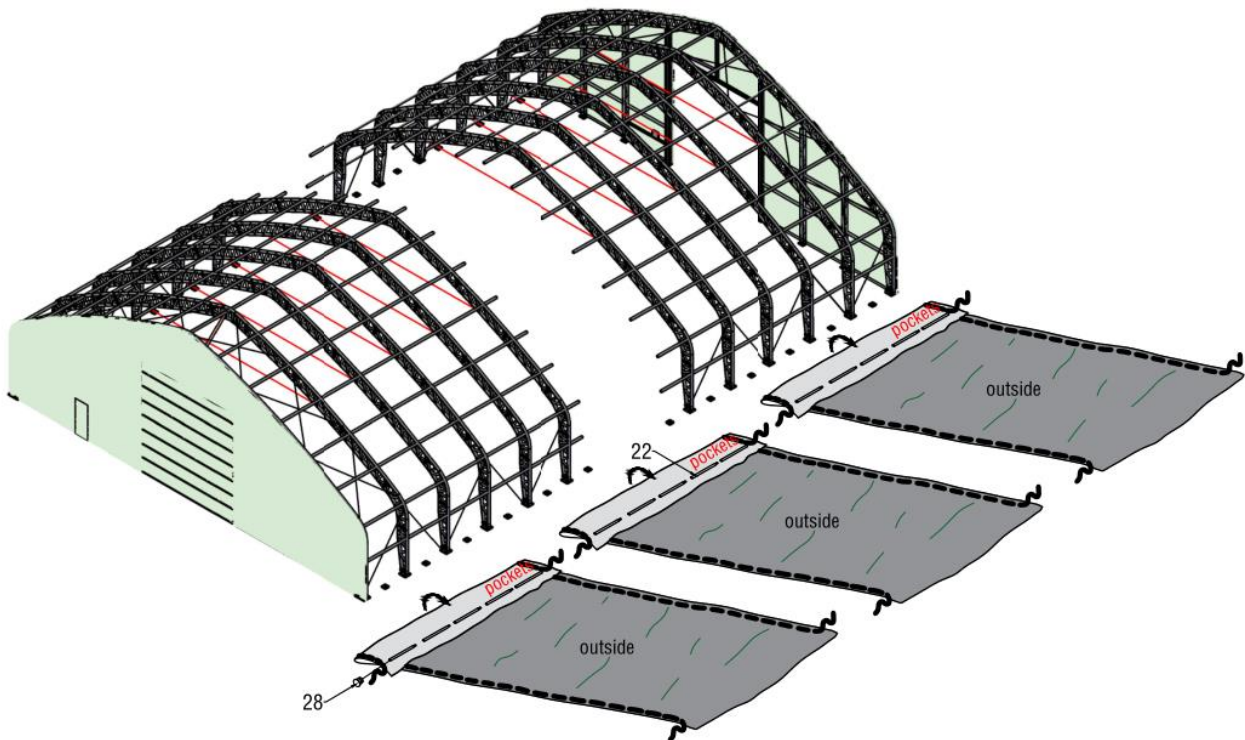

Figure 11
2. Insert the tension tube (No. 22) into one side of roof cover and cut some pockets which correspond to the position of ratchet. Then place the plastic plug (No. 28) on each end of tubes. (See Figure 11)